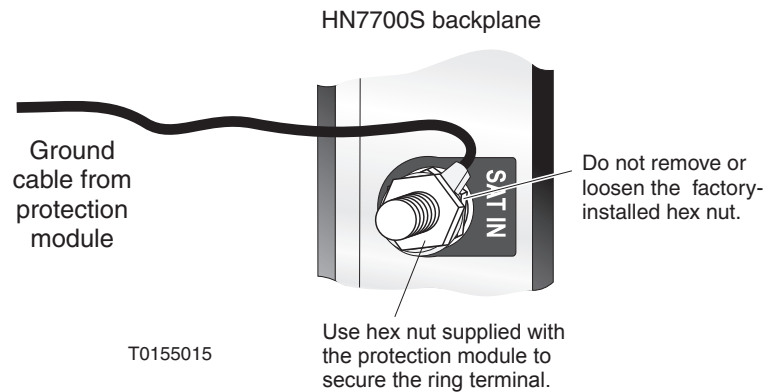

Figure 56: Connecting the protection module ground cable
2. Remove the coaxial cable from the HN router SAT IN port. See Figure 56.